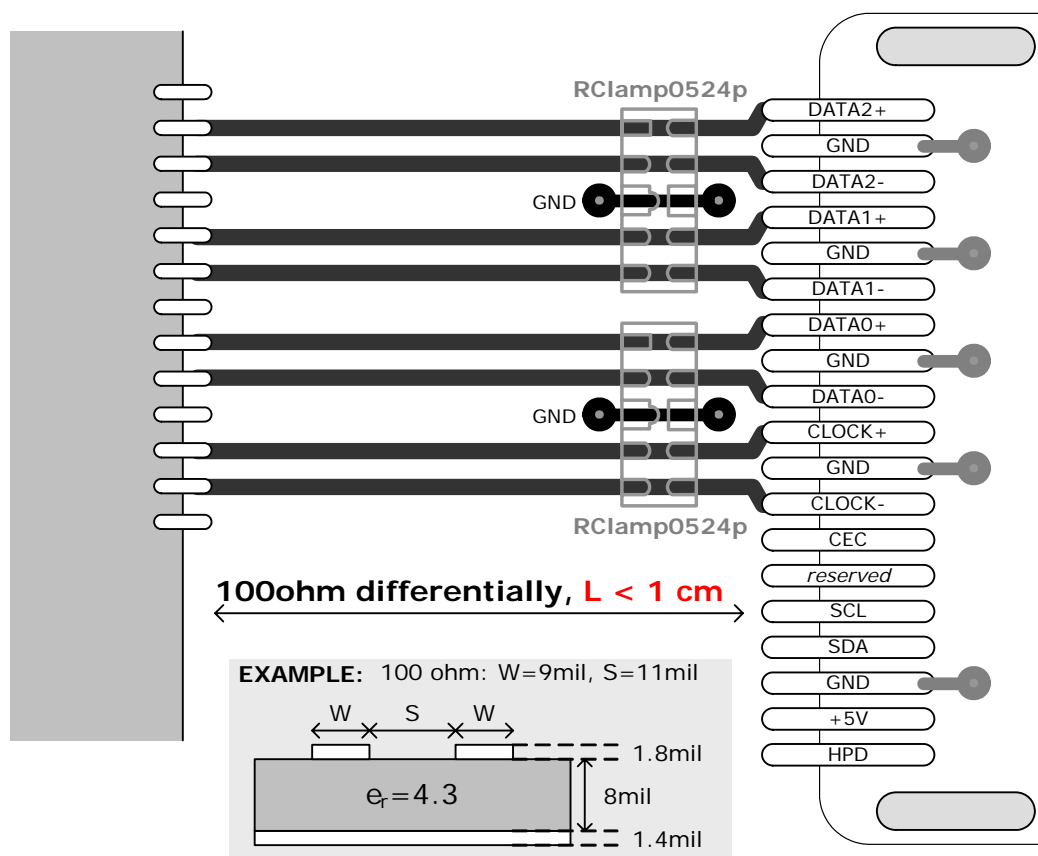

Figure 20. Layout example for high-speed TMDs differential signals
- D. The CAT6613 should be placed as close to the HDMI connector as possible. As a rule of thumb, the lengths of the TMDS differential traces (from the TMDS output pins of the CAT6613 to the HDMI connector) **should be smaller than 1 cm (refer to Figure 20)**, especially for applications that support TMDS data rates at more than 1.62 Gbps. This is because at such high transmission rates, the source-side reflections would seriously impact the output data eyes. Since PCB traces, even when carefully designed, suffer from large impedance variations, it's a must that the reflection route be kept as short as possible.